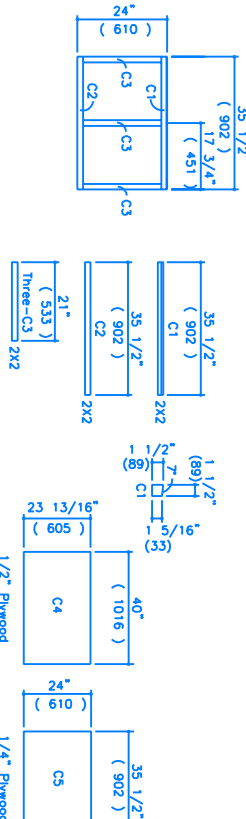

FIGURE 5
- 4) Component C. Cut piece C1 with a 7 degree angle at one side. Lay out the three pieces C3 between pieces C2 and C1 with the 7 degree end of piece C1 on the top outside edge sloping toward C4, (Fig. 5). Nail through pieces C1 and C2 into the ends of pieces C3 using 2 1/2" common nails. Place piece C4 on this assembly with the edges of pieces C4 flush with C1 and C2 and a 2 1/4" overhang post the outside edges of pieces C3. Nail to pieces C1, C2 and C3 using 1 1/2" common nails. Invert the assembly, place insulation and place piece C5 on the top flush with outside edges on C1, C2 and C3s. Nail to pieces C1, C2 and C3 using 1 1/2" common nails.